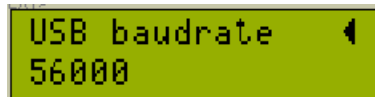

Fig. 33
4. Run Hairless MIDI<->Serial Bridge, choose COM port which is according TB-12(5) com port, assign COM port to midi in device LOOPMidi, set baud rate 56000.
5. IN TB-12 (5) set *System setup* -> **USB baudrate** vale to 56000(see Fig. 33)